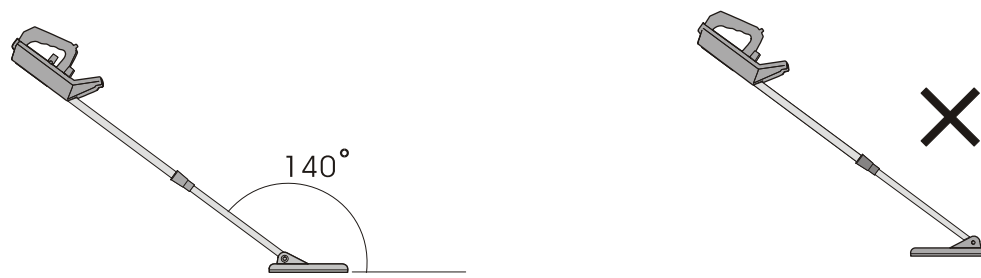

Figure.5
- Lay the search coil properly, keep the angle between search coil and aluminum stem is about 140° . Please note not to mistake it(Figure.5)